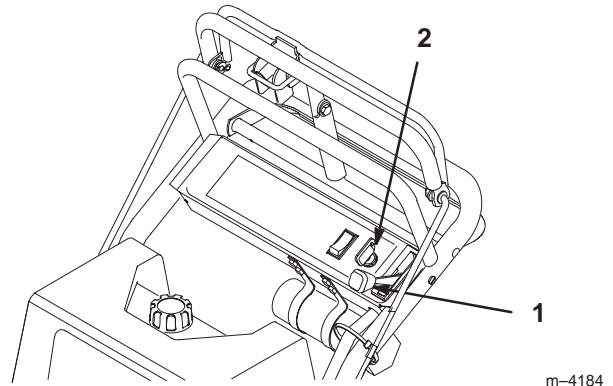

Figure 16
1. Move the throttle lever to slow (Fig. 16).
2. Turn the ignition key to off. (Fig. 16).